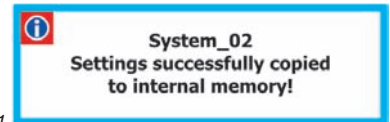

Fig. 181
- A confirmation message is displayed once setting is completed (Fig. 181). Press **ESC**.